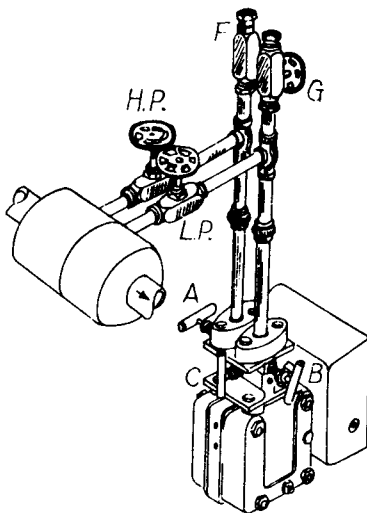

Figure 5. Piping connections for dry gas flow service, using commercial manifold.
- (1) Using Commercial Manifold (Figure 5)